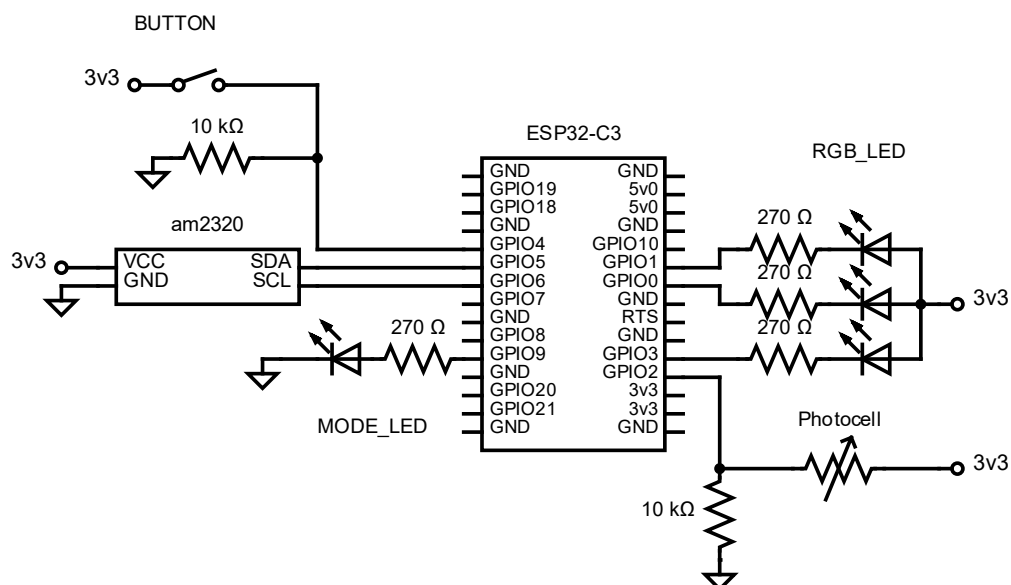

Figure 1- Phase 1 circuit diagram
- A circuit diagram accurately describing the system. You may simplify the wiring of VCC and GND, as done in Figure 1 above. Pin assignments must be faithful to the actual build.